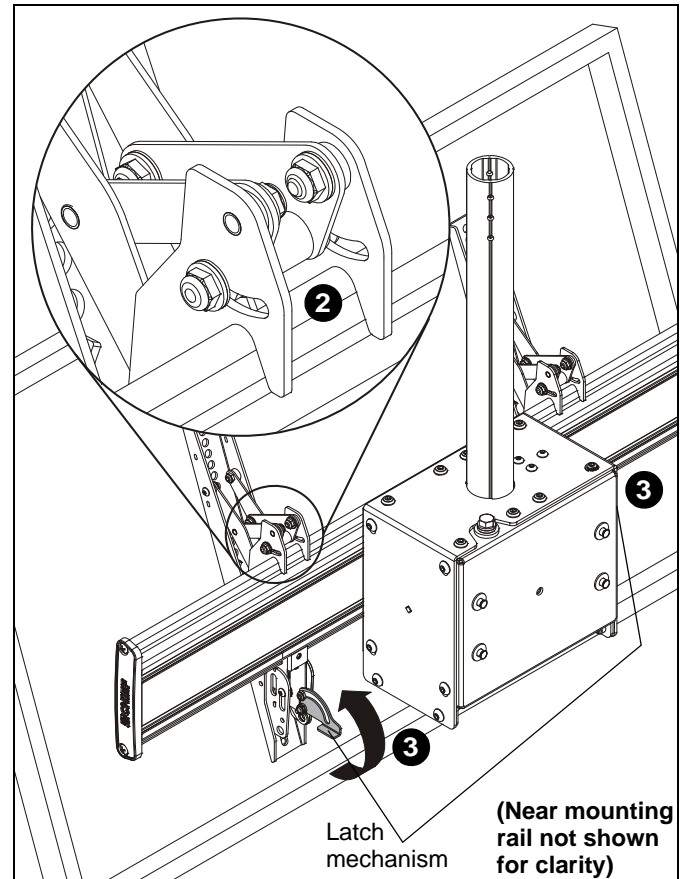

Figure 7
- While supporting both sides of display, lower display onto ceiling mount, hooking top of interface brackets onto front of ceiling mount. (See Figure 7)
- Raise the latch mechanism on both interface brackets to lock display in place. (See Figure 7)